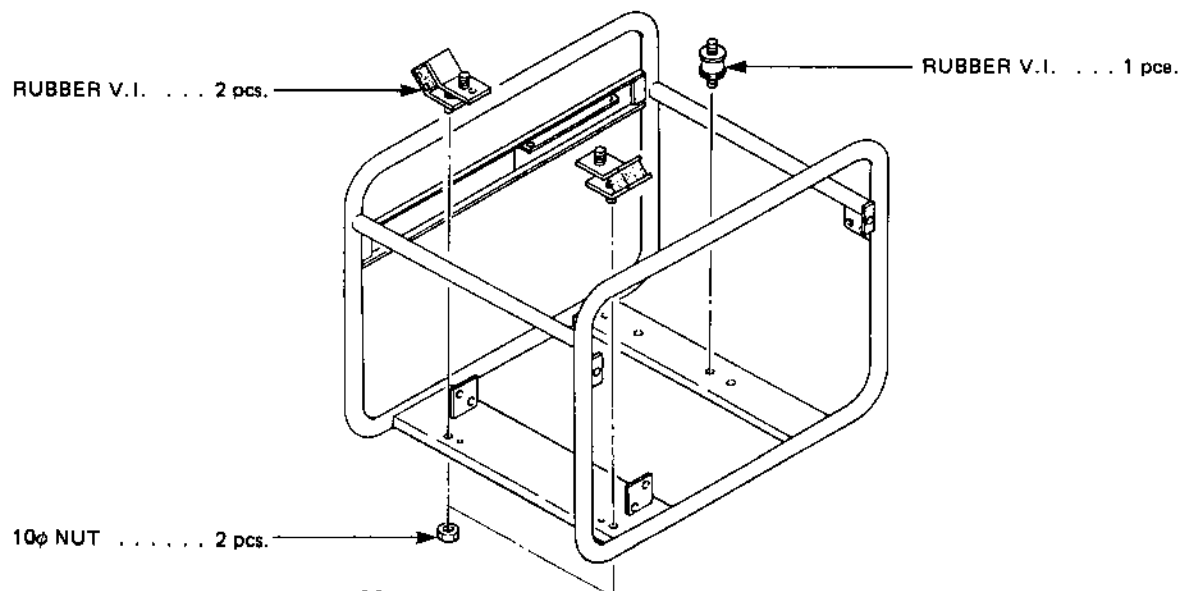

Fig. 10-36
- (1) Attach two engine mount rubbers and one alternator mount rubber to the frame. (See Fig. 10-36.)